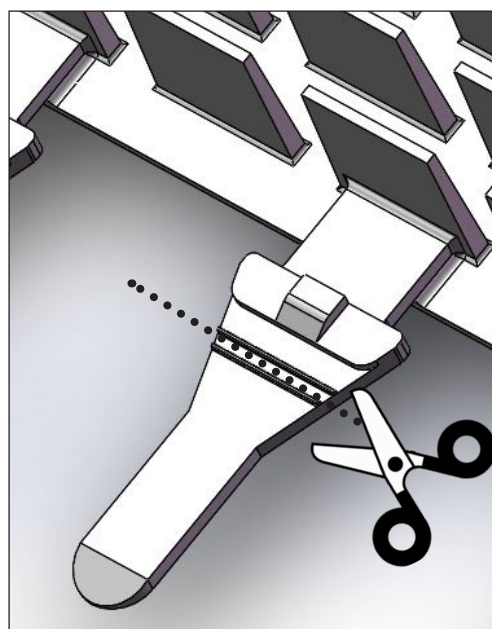

Figure 28. Cut Tabs
5. Use scissors to cut the tabs at the guides, as shown in Figure 28.